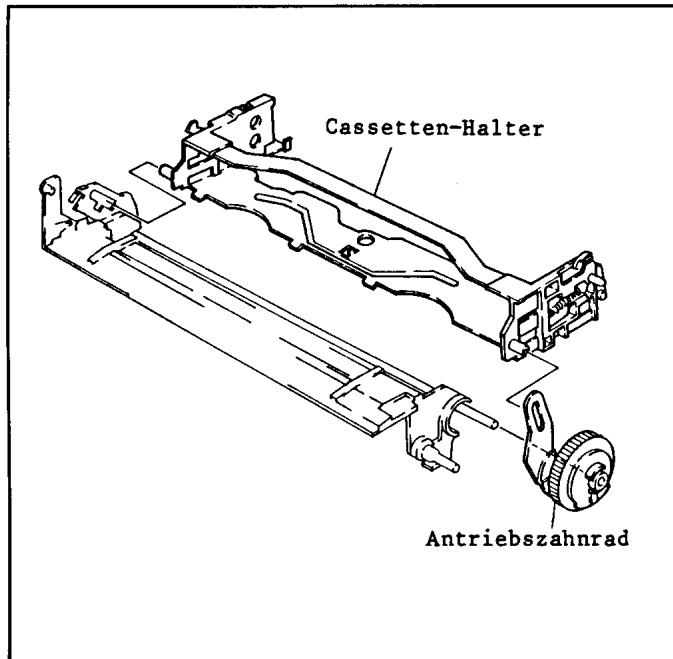

Abb. 5-5 Cassetten-Halter
5. **Cassetten-Halter** (Abb. 5-5)